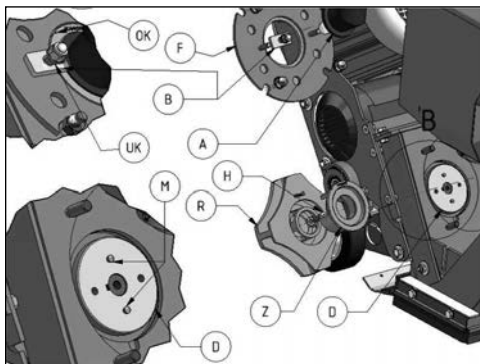

FIG. 5
Mounting (Figure 5)
1. Clean all threads and use a new blast wheel retaining bolt. Place blast wheel (R) on the wheel hub (D) through the blast housing opening so the wheel fits with the adapter pins (M). Tighten the blast wheel by the retaining bolt(H).
2. Re-attach the front cover plate (F) using the four washers and acorn nuts.
3. Insert the control cage (Z) in the center and clamp the control cage with the cage clamps (B) so that the blast wheel can rotate free with an overall clearance of 1/8" (3 mm) to the impeller. The blast wheel must rotate freely.
4. Preset the notches or guide lines, on the face of the control cage, to the 9:00 and 11:00 positions (OK and UK respectively) as shown in Figure 5.
5. Place the feed spout (A) in the housing.